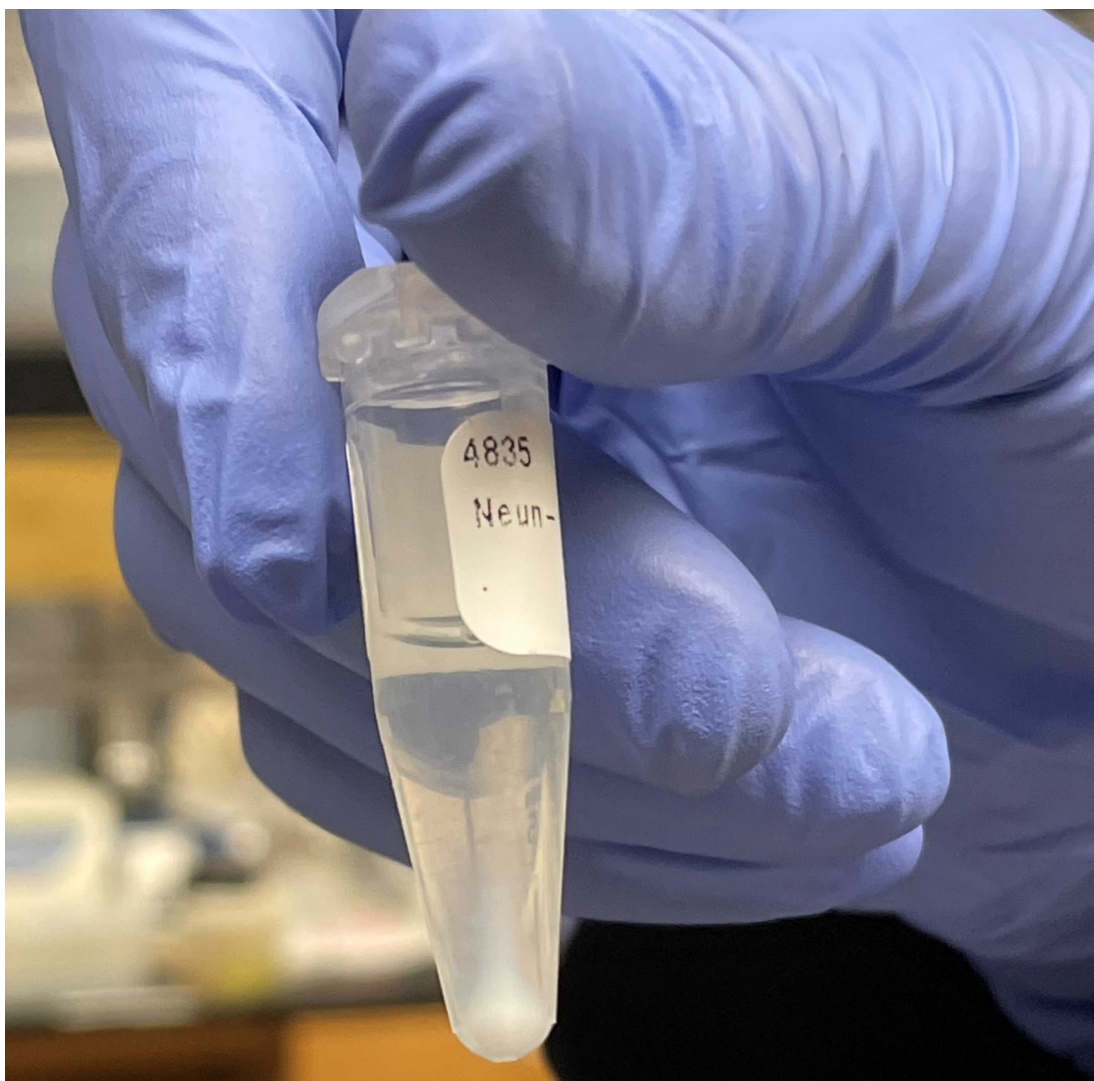

Figure 15. Image of what resulting pellet should look like after final centrifugation after nuclei sorting.
- 75 Gently and carefully discard supernatant without disturbing the pellet in the tube (if any) **⚡ On ice** (see **Figure 15**).